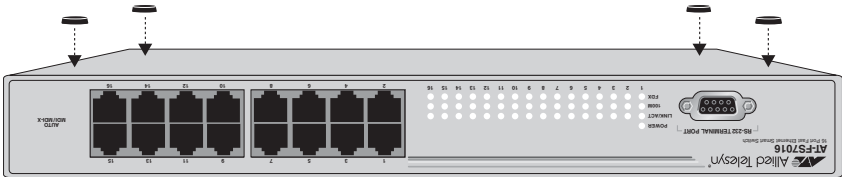

Figure 7 Attaching the Rubber Feet (AT-FS7016 only)
2. For the AT-FS7016 switch, attach the four protective feet to the bottom of the unit. See Figure 7.